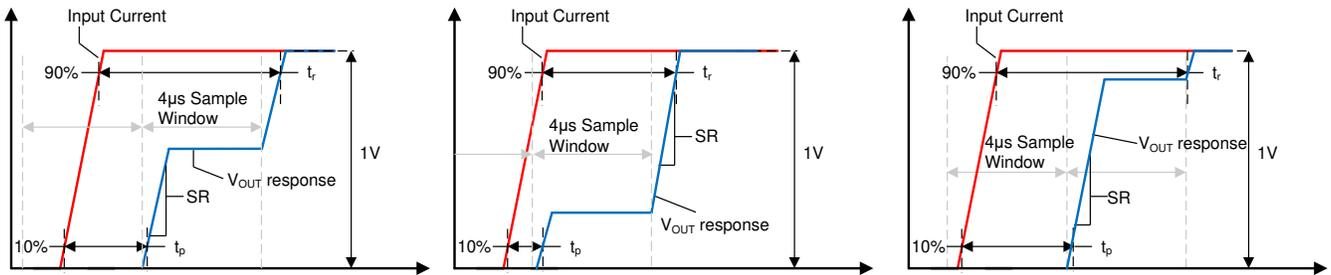

Figure 8-3. Small Current Input Step Transient Response
Slew rate (SR) is defined as the V_{OUT} rate of change for a single integration step’s output transition, as shown in Figure 8-3. Because the device often requires two sampling windows to reach a full 90% settling of its final value, this slew rate is not equal to the 10%-90% transition time for the full output swing.
Propagation delay is the time period between the input current waveform reaching 10% of its final value and V_{OUT} reaching 10% of its final value. This propagation delay is heavily dependent upon the alignment of the input current step and the sampling period of the TMCS1100, as shown for several different sampling window cases in Figure 8-3.
Response time is the time period between the input current reaching 90% of its final value and the output reaching 90% of its final value, for an input current step sufficient to cause a 1-V transition on the output. Figure 8-3 shows the response time of the TMCS1100 under three different time cases. Unless a step input occurs directly during the beginning of one sampling interval the response time will include two sampling intervals.